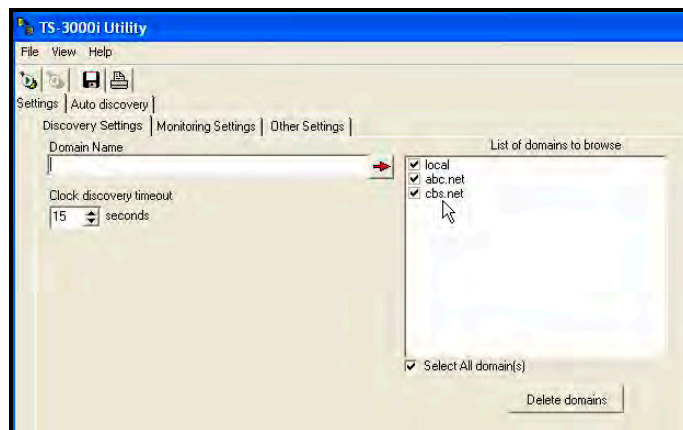

Figure 5-14. View Utility Settings – Discovery Settings.
- **Settings** – Use this function to enter discovery settings for Domain name to allow discovery in multiple domains. Also, set clock discovery timeout of TS-3000i Utility function. Domains can be deleted from the list to browse (see *Figure 5-14*).
Note – Each domain will be searched for the amount of time set in the "Clock discovery timeout" field before searching the next domain in the "List of domains to browse" list on the right (see *Figure 5-14* for an example).